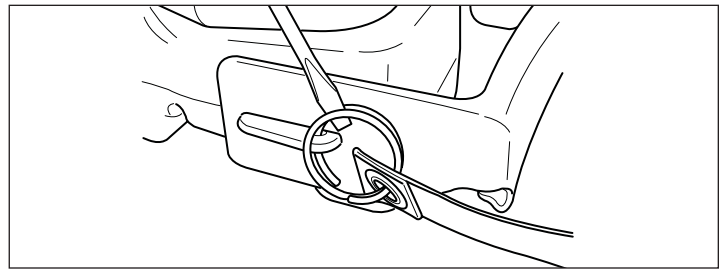

Figure 2. Install Shoulder Straps to Tank Base
2. Use a flat blade screwdriver to spread the rings on the end of the shoulder straps. Insert the rings into the holes on the tank base tabs. Turn the ring until it is completely through the holes. Make sure the straps are not twisted. See Figure 2.